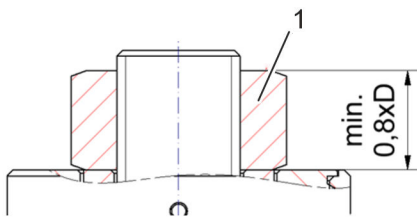

Fig. 30: Customer's clamping nut
The PSEF hydraulic tensioner works in conjunction with a customer's clamping nut (Fig. 30/1).
Thread coverage by the engaged clamping nut (Fig. 30/1) on the bolt for preloading must equal at least $0.8 \times D$ (D: thread diameter).
1. ➔ Screw on customer's clamping nut (Fig. 30/1).